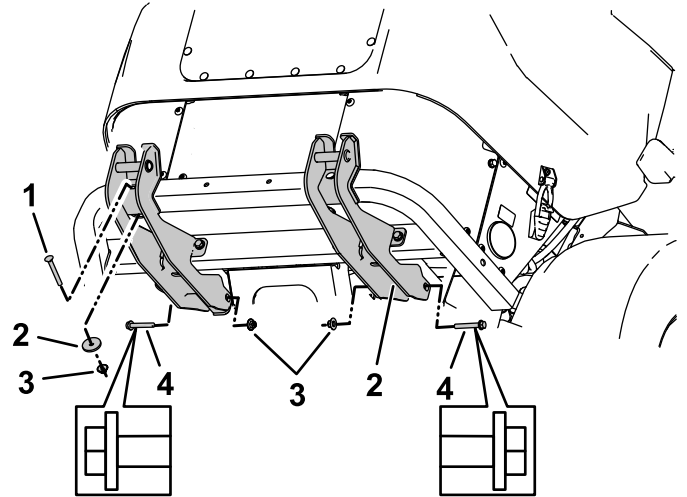

Figure 13
3. Loosely install 1 carriage bolt (3/8 x 3 inches), 1 thick washer, and 1 locknut (3/8 inch) into each lower mount bracket through the front of the rear bumper (Figure 13).
4. Loosely install 2 bolts (3/8 x 2-1/2 inches) and 2 locknuts (3/8 inch) at the front of the frame brackets (Figure 13).
Note: The head of the bolts should face outward on each bracket (Figure 13).